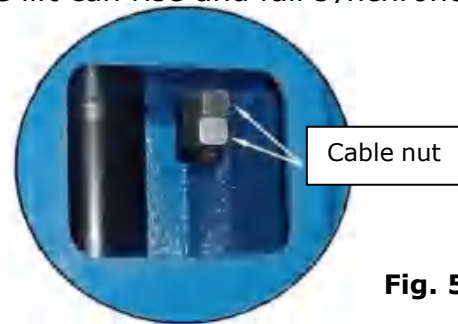

Fig. 59
1. Adjustment of sync cables (See Fig. 59)